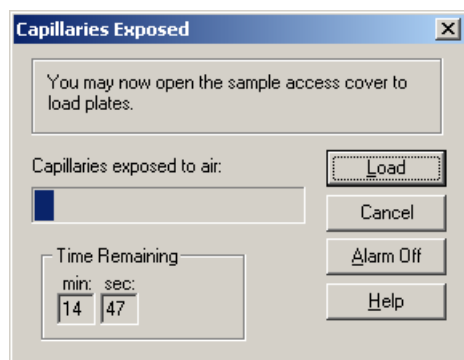

Figure 1.19 Capillaries Exposed Dialog
5. Click **Unload**. The Capillaries Exposed dialog (Figure 1.19) will appear.